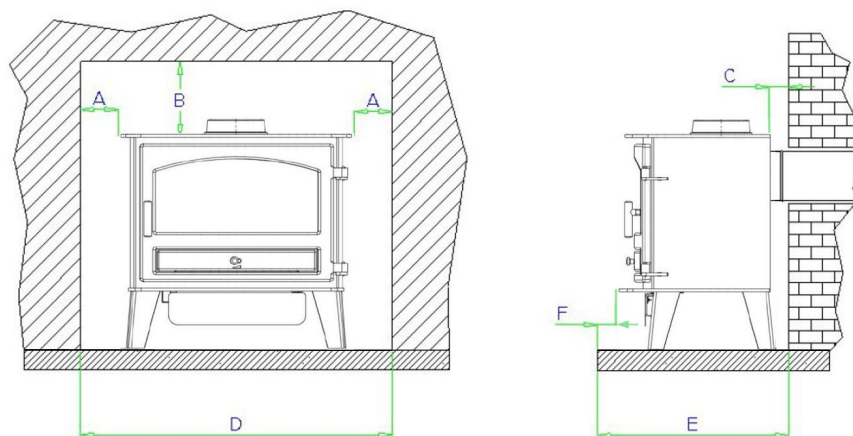

Figure 1: Clearance Distances
8. Opening Clearances: for the relevant clearance distances for installing the appliance in an opening see figure 1 and table 1.